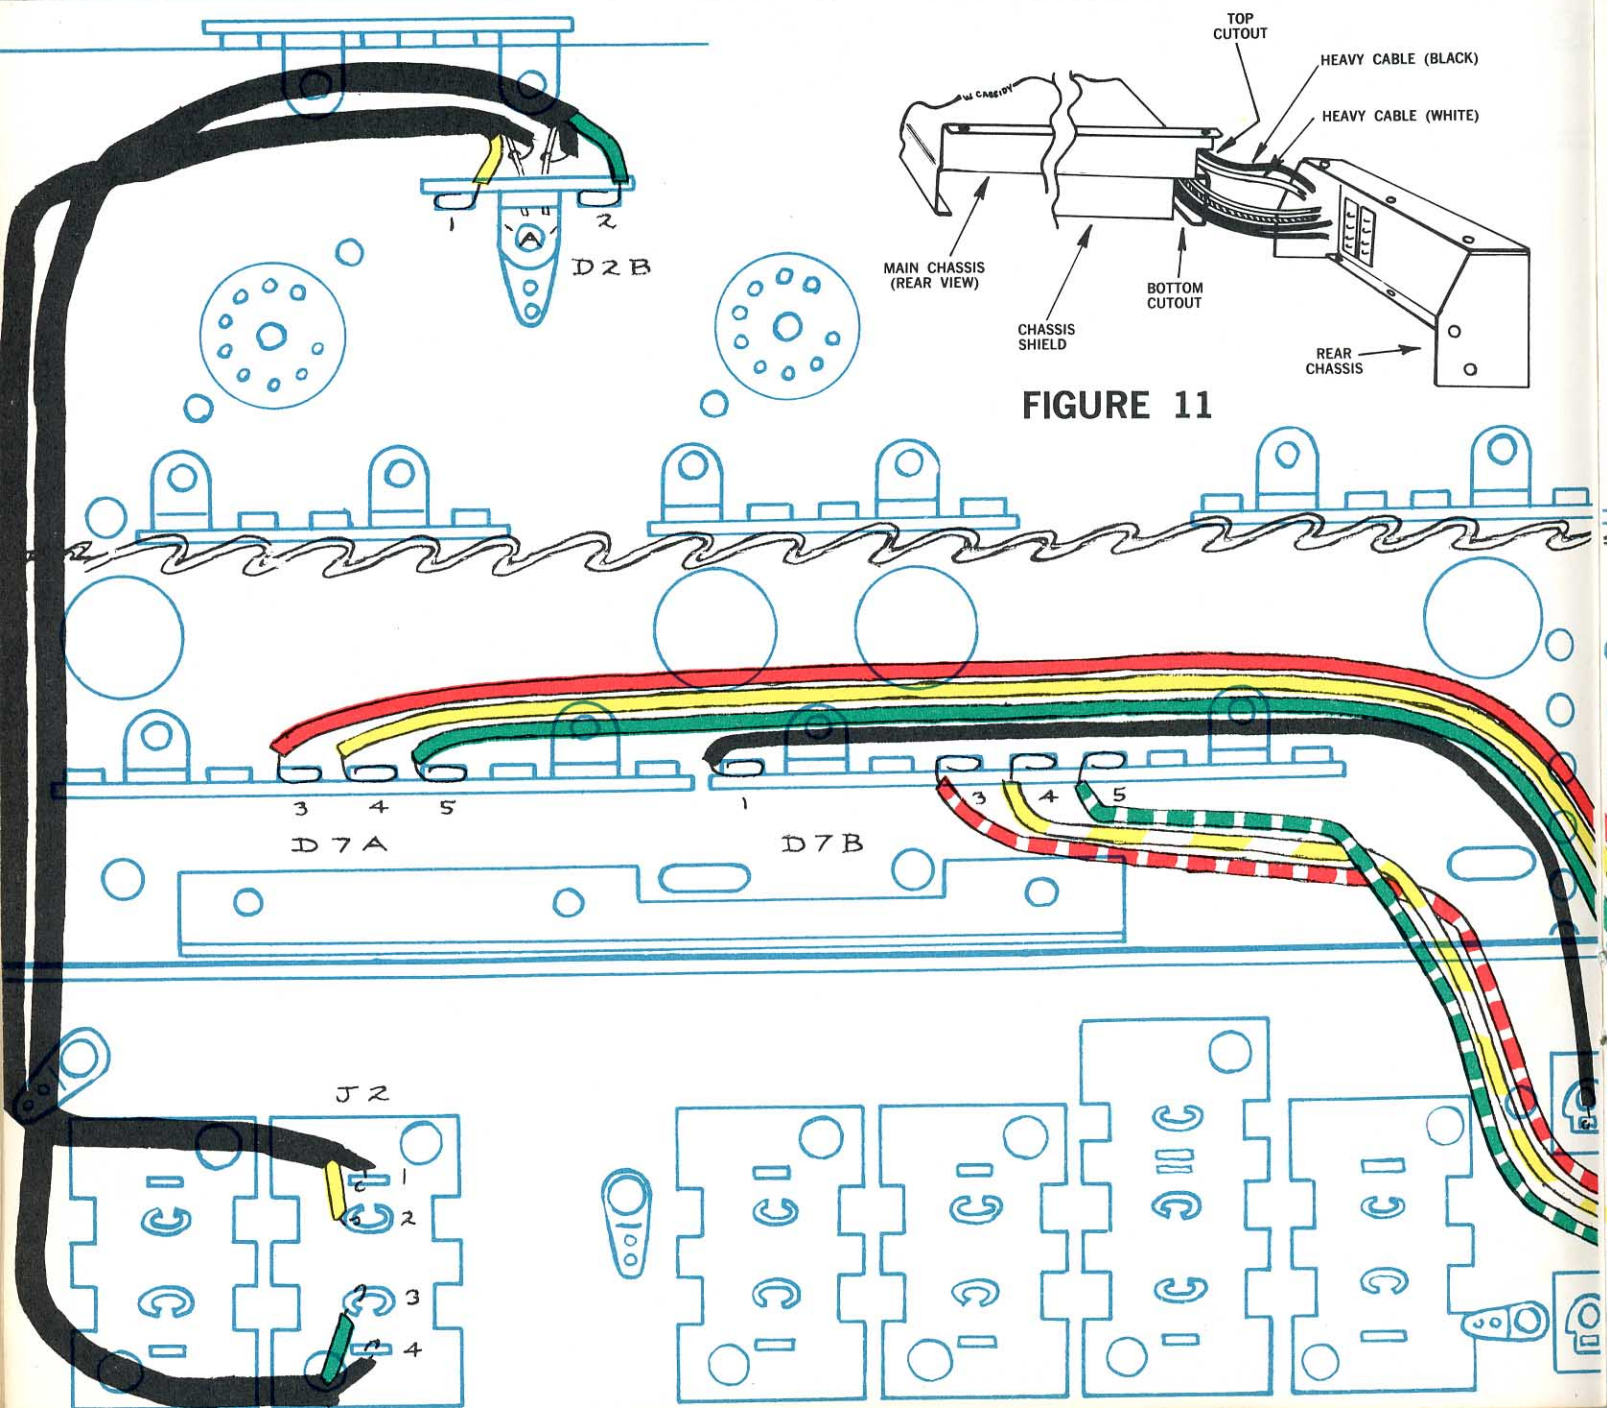

FIGURE 11
- A2-2. The next step involves assembling the rear to the main. Before proceeding it is important to determine the proper position and destination of the many long cables connected to the rear. All of the wires except the two heavy cables, one black and one white, should be positioned straight down to avoid interference with the assembly. The two heavy cables are to be fed through the appropriate cutout in the back. See Fig. 11.